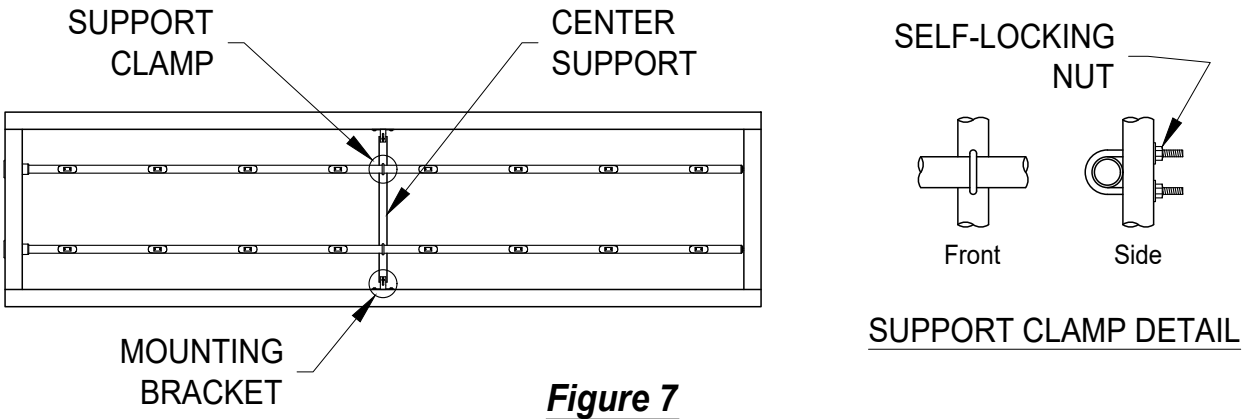

Figure 7
- After the ELECTRA-flo/S5 Probe Array is fully mounted in the duct, install the center support by connecting in to the individual probes using the U-bolt hardware provided. The center support goes on the downstream side of the ELECTRA-flo/S5 Probe Array. See Figure 7.